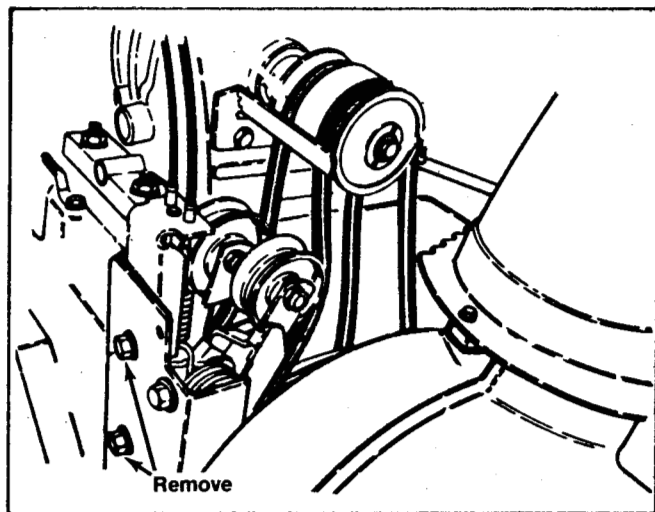

Figure 6
4. Remove the two flanged head capscrews securing the idler pulley assembly to the engine frame. Remove the idler pulley assembly. See Figure 6.